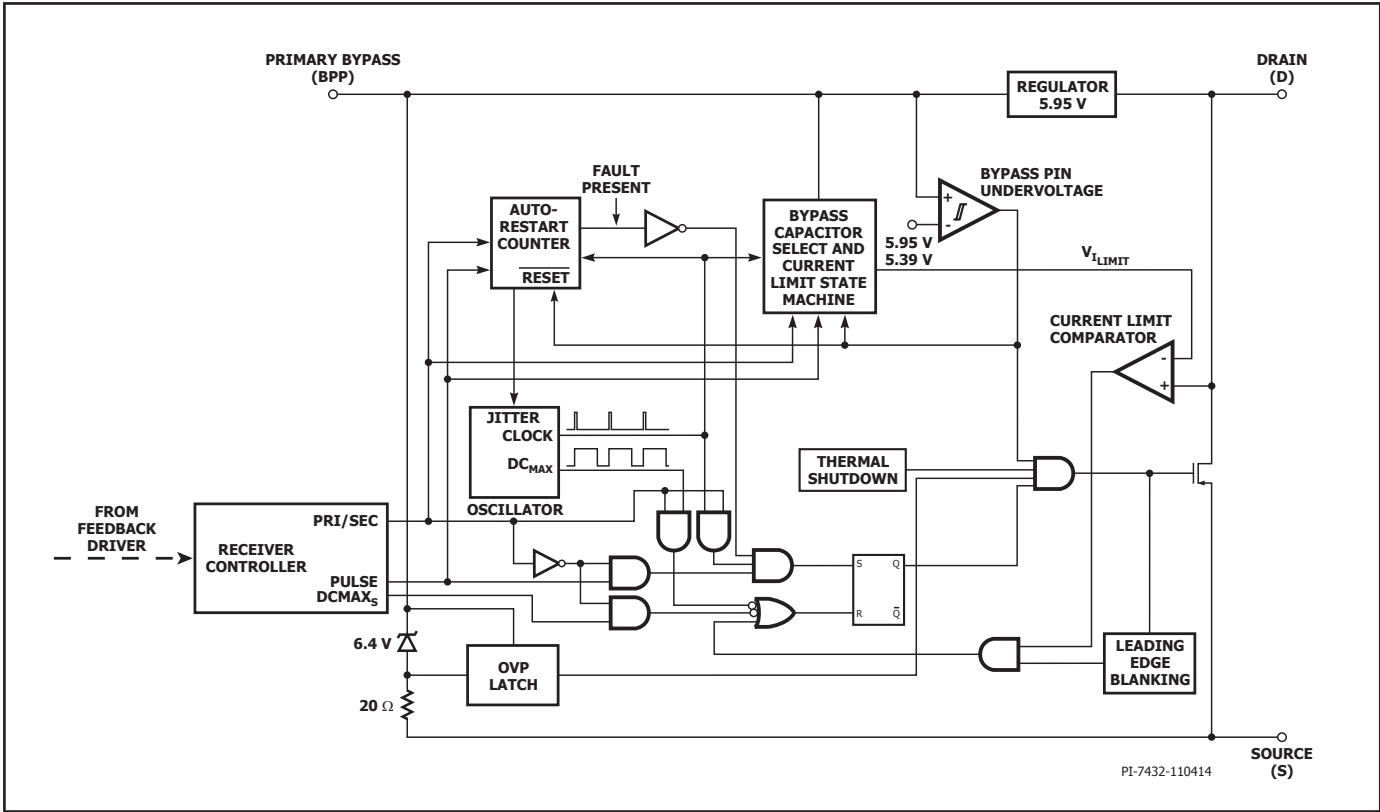

Figure 3. Primary-Side Controller Block Diagram.
information to the primary IC. Unlike conventional PWM (pulse width modulated) controllers, it uses a simple ON/OFF control to regulate the output voltage and current. The primary controller consists of an oscillator, a receiver circuit magnetically coupled to the secondary controller, current limit state machine, 5.95 V regulator on the PRIMARY BYPASS pin, overvoltage circuit, current limit selection circuitry, over temperature protection, leading edge blanking and a 650 V power MOSFET. The InnoSwitch-CH secondary controller consists of a transmitter circuit that is magnetically coupled to the primary receiver, constant voltage (CV) and constant current (CC) control circuitry, a 4.45 V regulator on the SECONDARY BYPASS pin, synchronous rectifier MOSFET driver, frequency jitter oscillator and a host of integrated protection features. Figures 3 and 4 show the functional block diagrams of the primary and secondary controllers with the most important features.